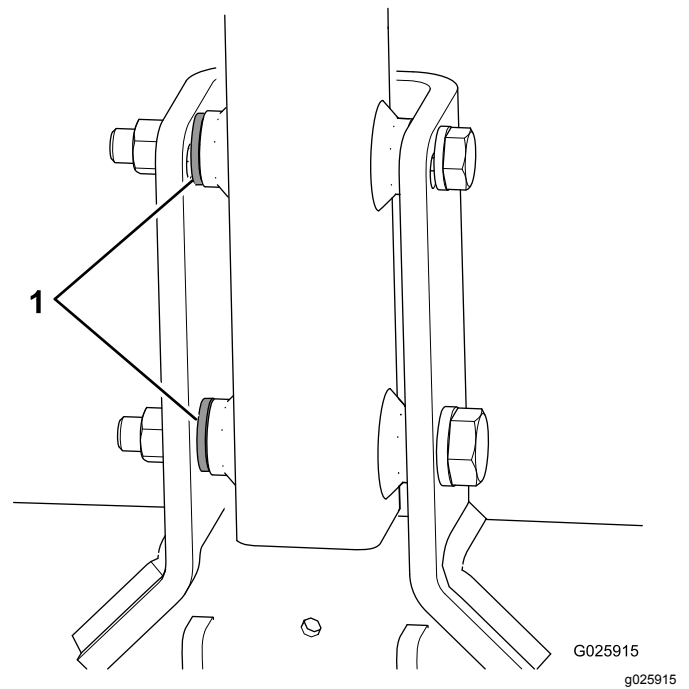

Figure 6
- If your machine has a third washer included with each bolt, use those washers as spacers between the hitch and the inside of the hitch pivot bracket (Figure 6).